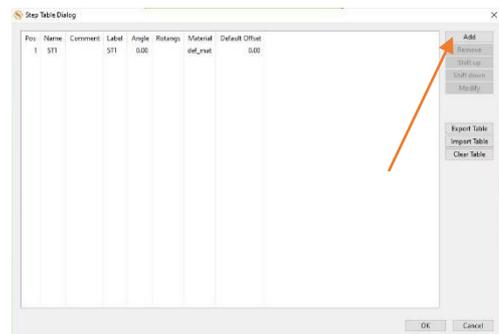

Figure 95
- The appearing Step Table Dialog lists all steps used for generating the lay-up of our composite part. In our case we want to add four compound layers. Each layer is applied by one single step. For more complex parts, it is also possible to split layers into multiple steps if required. The first step is already added by default, so three more steps are needed. Therefore click (Figure 95).